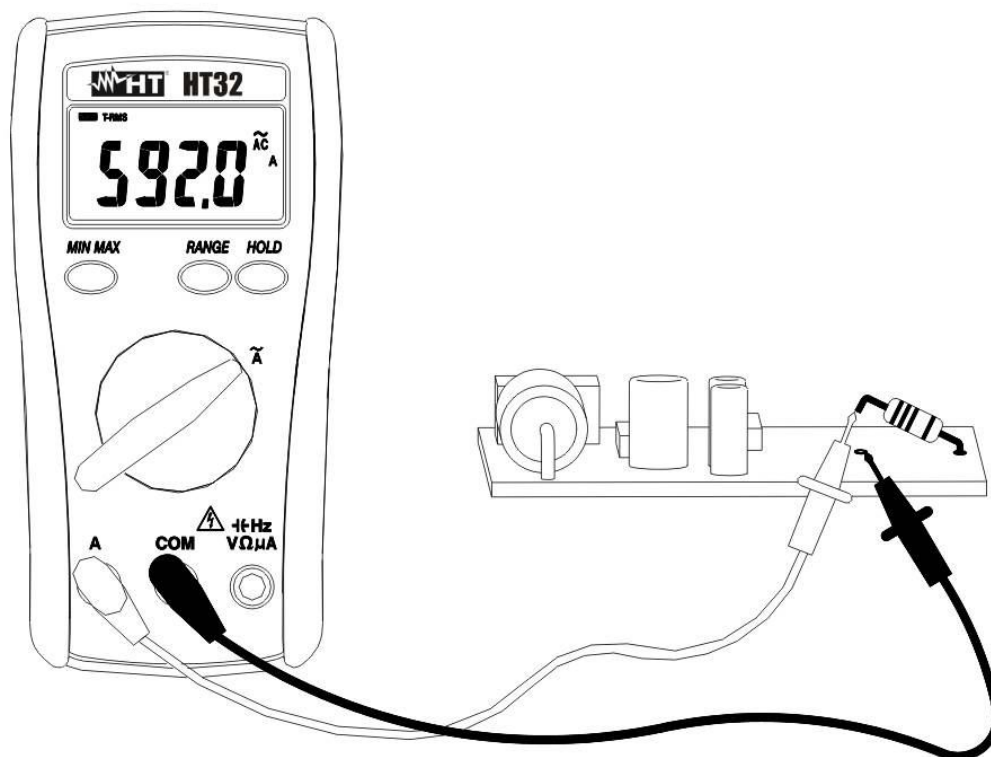

Fig. 5: AC Current measurement
3. Insert the test leads into the jacks, the red plug into **A** jack and the black plug into **COM** jack (Fig. 5).